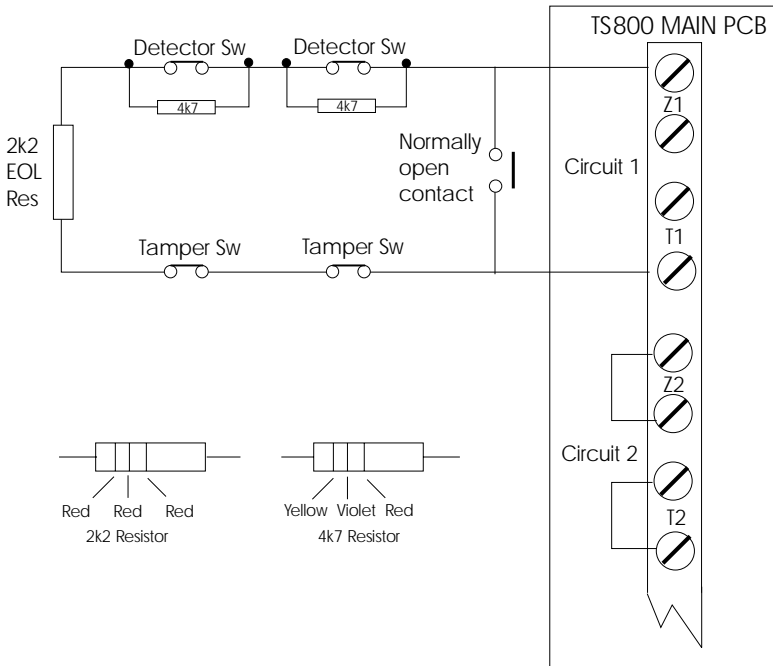

Fig 3 EOLR Circuit Connections
EOLR System (Fig 3):
- (3) Connect the detection circuit cables to the LEC8 (Fig 3 and 4).